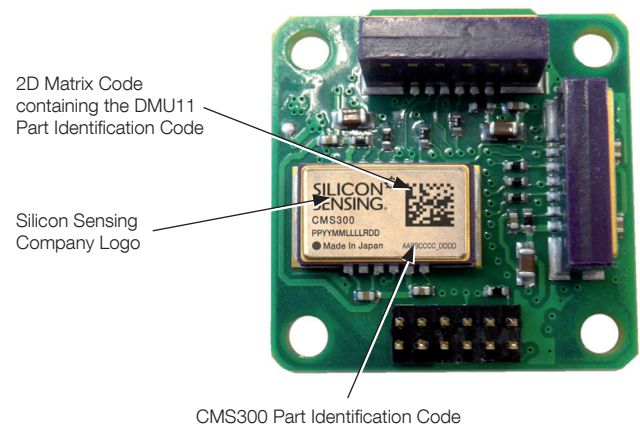

Figure 9.1 Part Identification
For practical reasons the DMU11 PCB Assembly is not uniquely marked, however each DMU11 can be uniquely identified by the 12 digit part identification code located on the bottom right-hand corner of the CMS300 Combi Sensor [Yaw Rate Sensor - (Y)] - See Figure 9.1.